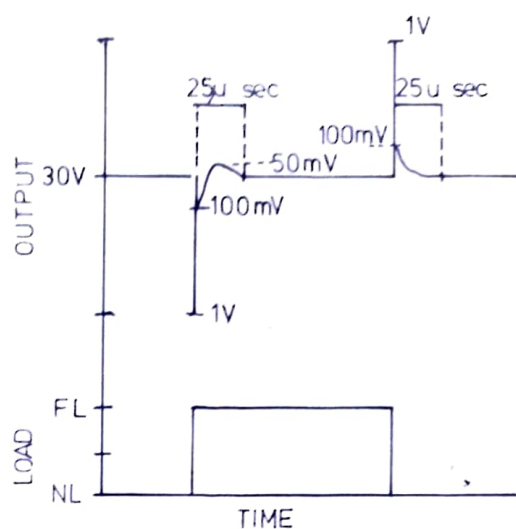

Fig. 3 Pulse Response
- (ii) Transient Response—The typical response to a pulsed load is shown in fig. 3. This is measured with appropriate O/P and F/B terminals linked at the terminals (see note on Remote Sensing).